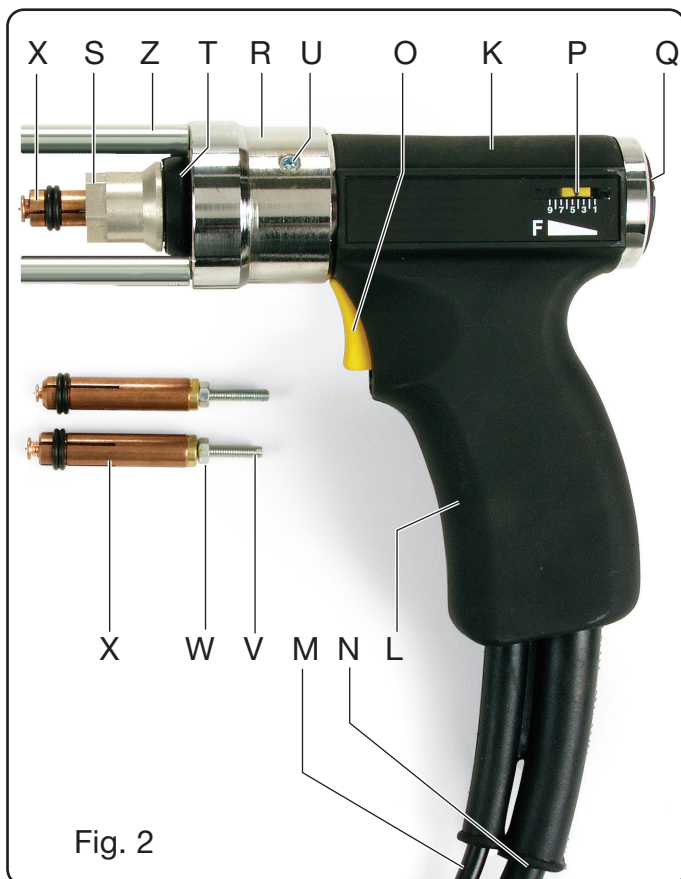

Fig. 2
Adjust the protrusion of the stud bolt from the front of the clamp to $0.8 \div 1.2$ mm using the screw **V**, then tighten with the nut **W** (figure 2).
Insert the clamp **X** into the chuck of the gun (fig. 2), press until you feel it rest all the way down, and tighten the nut **S** using the 17-mm hexagon wrench provided.
- insert the chosen stud bolt in the clamp **X** (previously adjusted as described in Fig. 2)